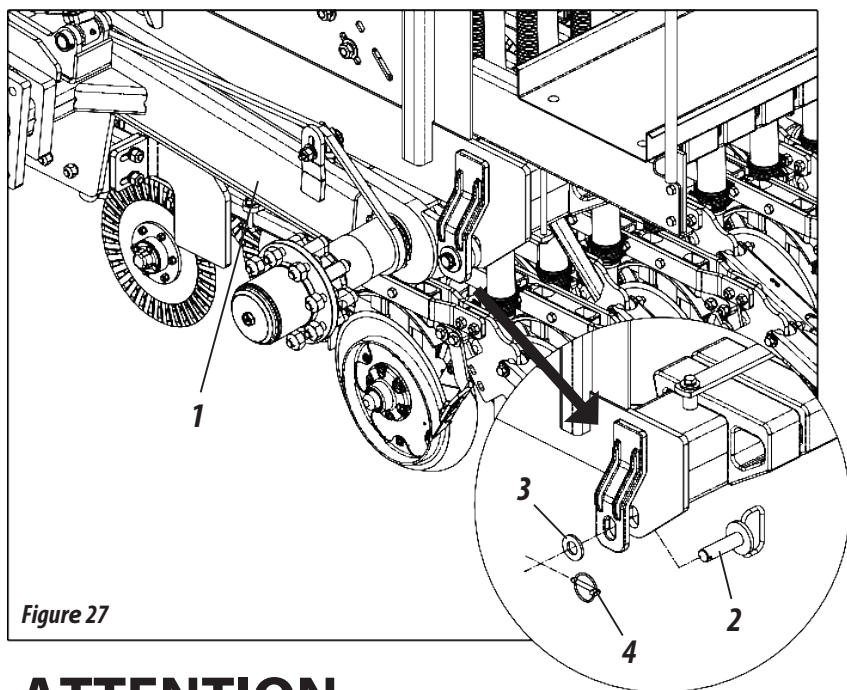

Figure 27
- 5- Before transporting the seeder, check that it is level with the ground, otherwise level it through the head regulator (10).
- 2- Then remove the pivot pin from the knob, as shown in figure 27, page 30.
- 3- Then lift the lines by fully activating the reach of the cylinders and place the lock (4) on the rods of the central cylinders (5) locking with the pin (6) and lock (7).
Failure to remove the bending pin of the ring bracket (Figure 27, page 30) before lifting the lines will cause damage to the seeder.
FIXATION AND WHEEL ARTICULATION SYSTEM (FIGURE 27)